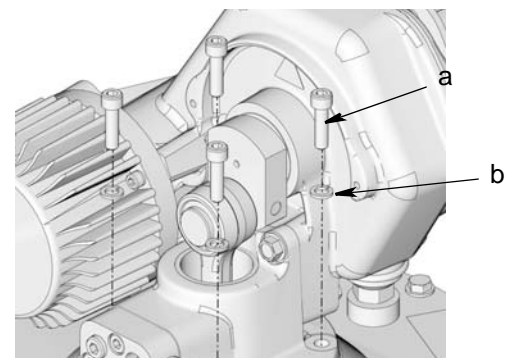

FIG. 50
26. Align holes in pump base with holes in tank / reservoir cover. Securely fasten pump to tank / reservoir cover using screws (a) and washers (b) (FIG. 50).